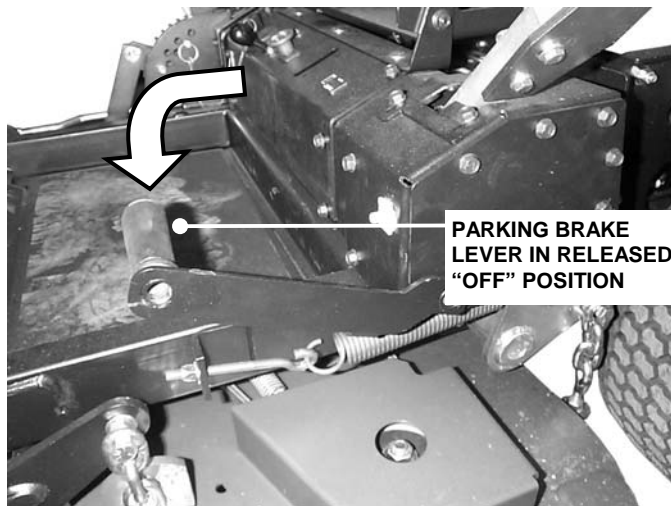

FIGURE 3.8
3. Release parking brake by pushing parking brake lever forward to the released position. See Figure 3.8.